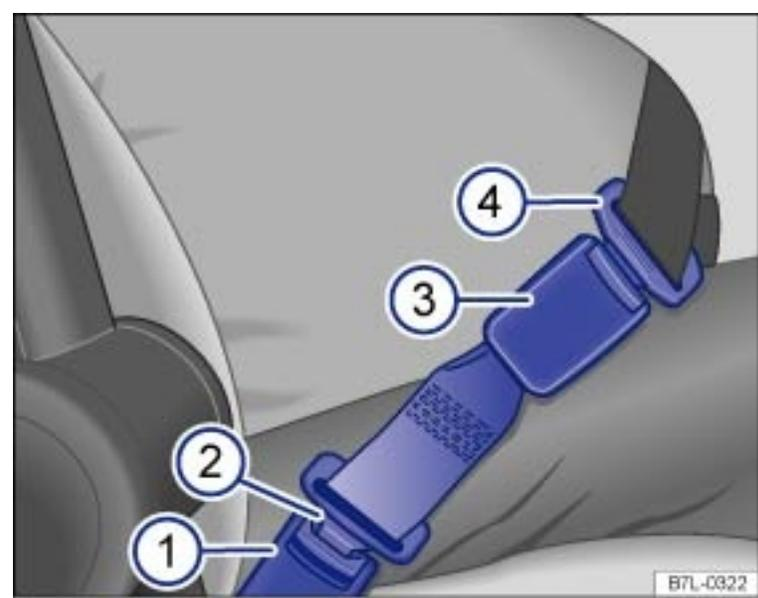

Fig. 65 A safety belt extender properly attached to the factory-installed safety belt.
Key to → Fig. 65:
- ▶ Insert the buckle tongue on the safety belt extender → Fig. 65 ② into the vehicle belt buckle for the seat where the safety belt extender is being used → Fig. 65 ① .